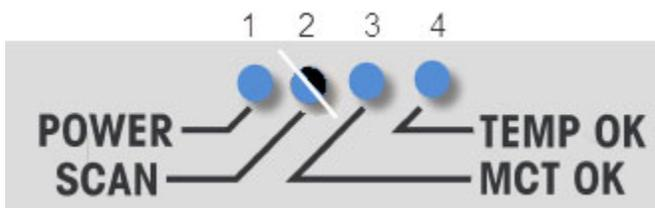

Figure 4-5 ReactIR 45P LED Indicators (fully functional state)
Four LED indicators on the panel below of the ReactIR 45P base unit enclosure show the status of the instrument as it relates to power, scanning/communication, and readiness. Frequent check of these indicators enables recognition of instrument conditions that may require attention to assure measurement accuracy (see Figure 4-5). A fully functional instrument will yield solid blue Power, Temp OK, and MCT OK indicators and a flashing blue Scan indicator.
1. Verify that the blue Power LED (indicator 1 in Figure 4-5) on the front of the instrument is lit (solid blue).
2. Verify that the Scan LED (indicator 2 in Figure 4-5) on the front of the instrument is lit and flashing blue.